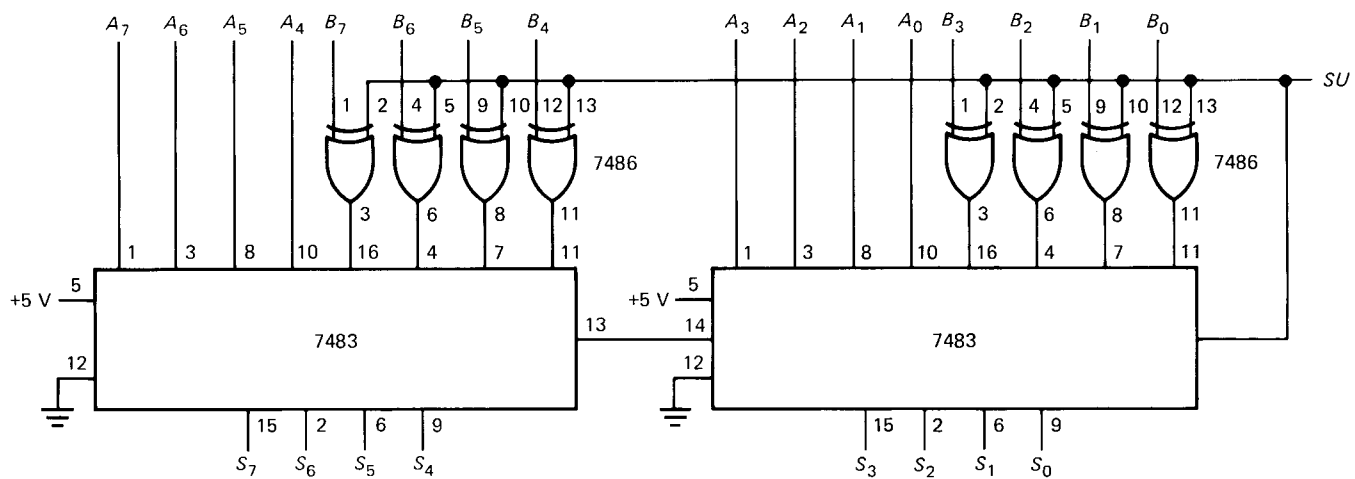

Fig. 6-9
- 6-11.** Suppose the inputs to Fig. 6-9 are **A** = 3CH and **B** = 5FH. What is the output for a low **SUB**? **A**
- 6-12.** In Fig. 6-9 which of the following inputs cause an overflow when **SUB** is low?